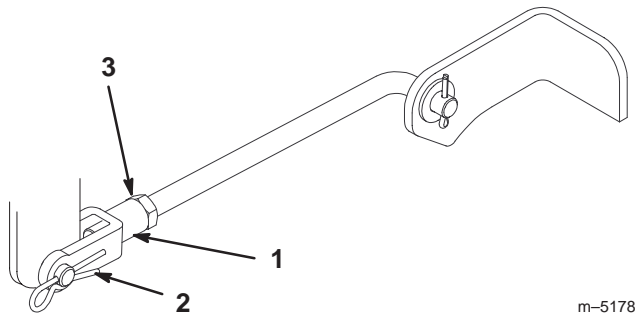

Figure 42
7. To adjust the front-to-rear blade slope, remove the hairpin cotter from the front trunnion yokes and loosen the jam nuts (Fig. 42).
8. Rotate the yokes on the rods to change the adjustment (Fig. 42). To raise the front of the mower, tighten the yokes (shorten the rods). To lower the front of the mower, loosen the yokes (lengthen the rods).